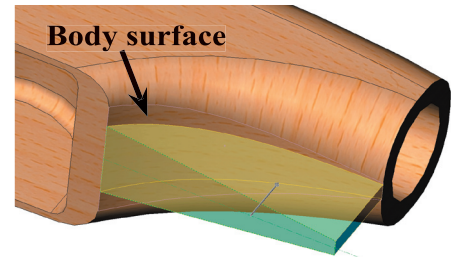

Fig. 56
Step 13. Use the **Rotate View**  in the View toolbar or hold down middle mouse button and drag mouse to rotate view as shown in **Fig. 56**.
set **Face/Surface**: click the body surface under the cartridge hole (not the fillet), **Fig. 56**